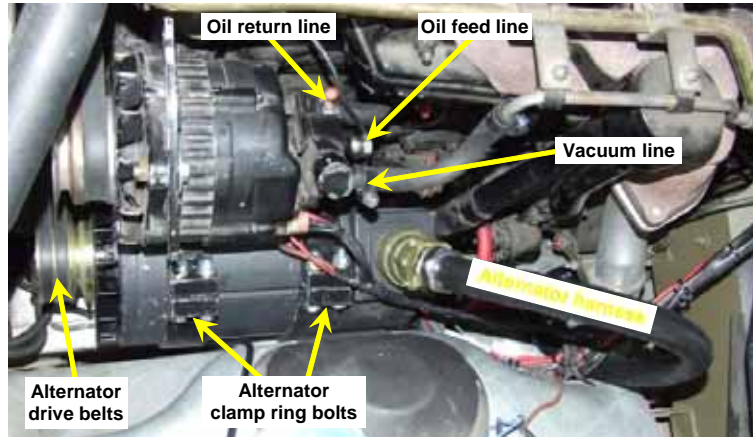
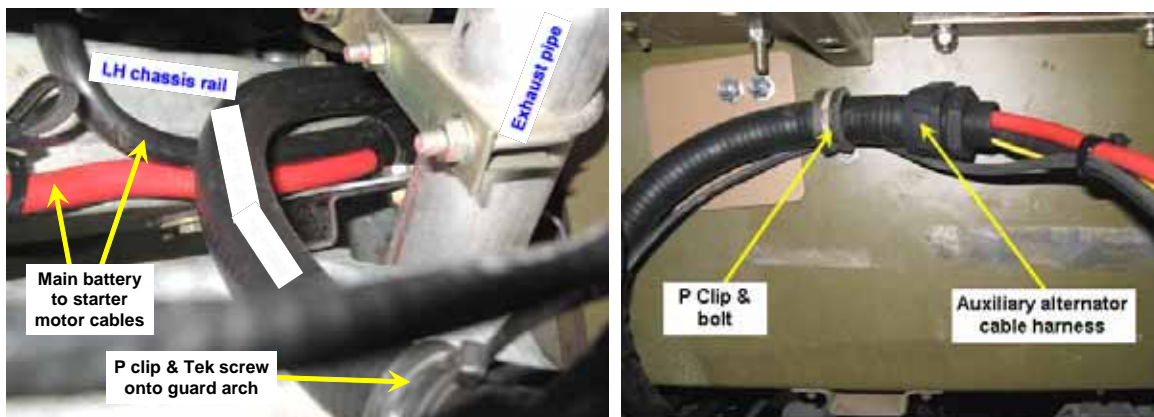

Figure 10 General Arrangement of the Completed Auxiliary Alternator Installation
Figure 11 Securing the Front and Rear of Auxiliary Alternator Harness
- (2) Mount the alternator onto the engine mount bracket with an M12 x 160 mm upper pivot bolt (Table 1, Item 31) inserted from the front, a 12 mm lock washer (Table 1, Item 32) and an M12 nut (Table 1, Item 33).
- (3) Insert the lower M12 x 160 mm bolt (Table 1, Item 31) from the front and tighten it with a 12 mm lock washer (Table 1, Item 32) and an M12 nut (Table 1, Item 33). Tighten the upper bolt.
- (4) Adjust the longitudinal position of the alternator within the clamp rings so that the front two belt grooves on the three groove drive pulley are correctly aligned with the two grooves on the crankshaft pulley and the jockey pulley.
- (5) Rotate the alternator in the clamp rings so that the output connector is tilted slightly off vertical towards the left side of the vehicle as shown in Figure 10. Tighten the four clamp ring bolts and the upper pivot bolt when adjustments are complete.
- (1) Fit the plug on the harness to the upwards facing connector on the alternator. Loop the harness back downwards to the guard arch just forward of the exhaust pipe as shown in Figure 10, and then route it inboard and under the cabin along the top of the left-hand chassis rail into the left-hand side battery enclosure as shown in Figure 11.
- (2) Use two P clips (Table 1, Item 84) and M6 x 16 mm bolts, nyloc nuts and flat washers to secure the front part of the harness to the guard arch in the engine bay and the conduit rear end of the harness in the upper left-hand corner of the battery enclosure as shown in Figure 11.
- (3) Securing the alternator harness along the top of the chassis rail is carried out as part of the main battery-to-starter motor cable installation procedure later in this instruction. Connecting the harness in the battery enclosure is carried out as part of the battery installation procedure later in this instruction.